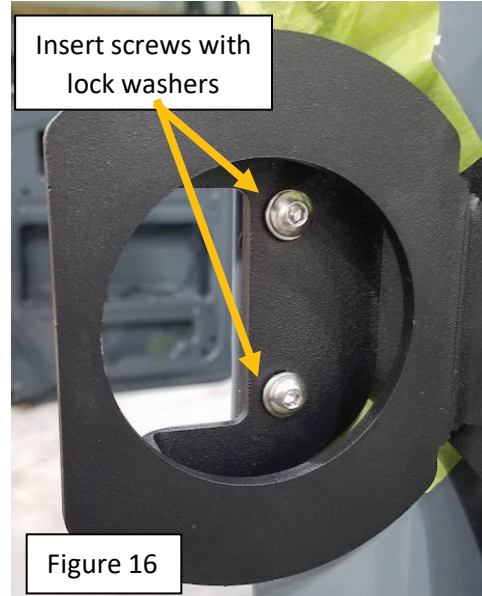

Figure 16
- d. Retrieve (2) 1/4"-20 x 3/4" SS button head screws, (2) 1/4" SS Split lock washers, and Nvader part X.
- e. Insert the 2 screws with lock washer on each through the 2 holes in the emblem bracket and the door. See figure 16.